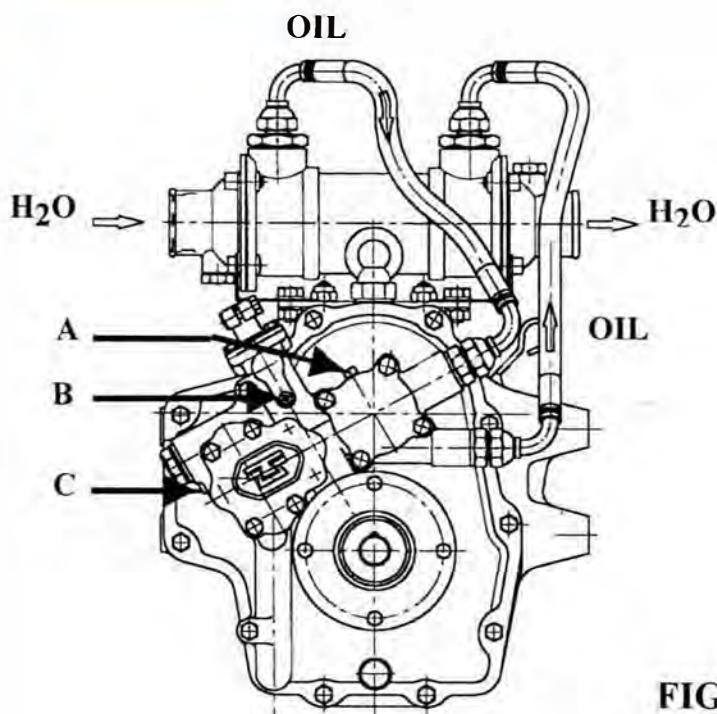

FIG.1
- The heat exchanger connection is achieved as shown in fig.1.
Pressure gauge connections M6x1 are placed, refer to fig.1, on A (forward) and C (reverse).